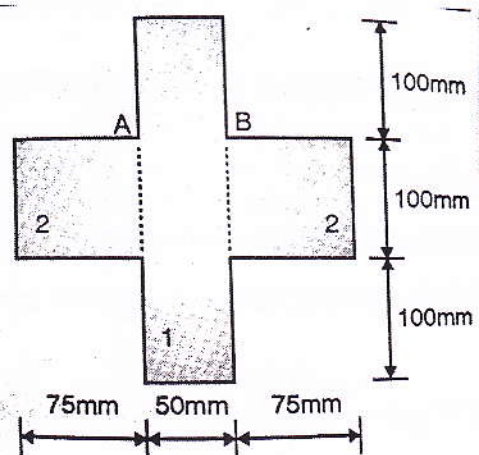

Fig.4c
- c) A beam of extruded magnesium has the uniform cross section shown in fig.4c. Calculate the shear stress at the junction AB, if the total shear force on the cross section is 225 kN. 09 L₃ CO 5